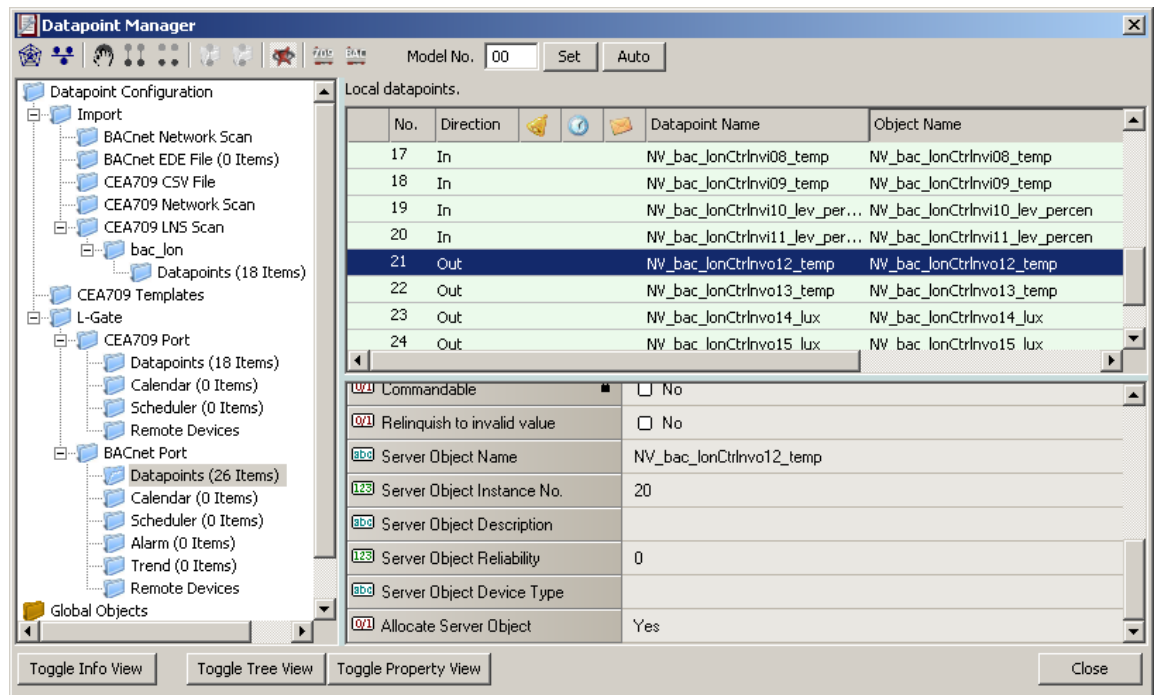

Figure 96: Auto-created BACnet Points in the BACnet Folder
6. The generated BACnet objects appear in the L-Gate/BACnet Port/Datapoints folder as shown in Figure 96.